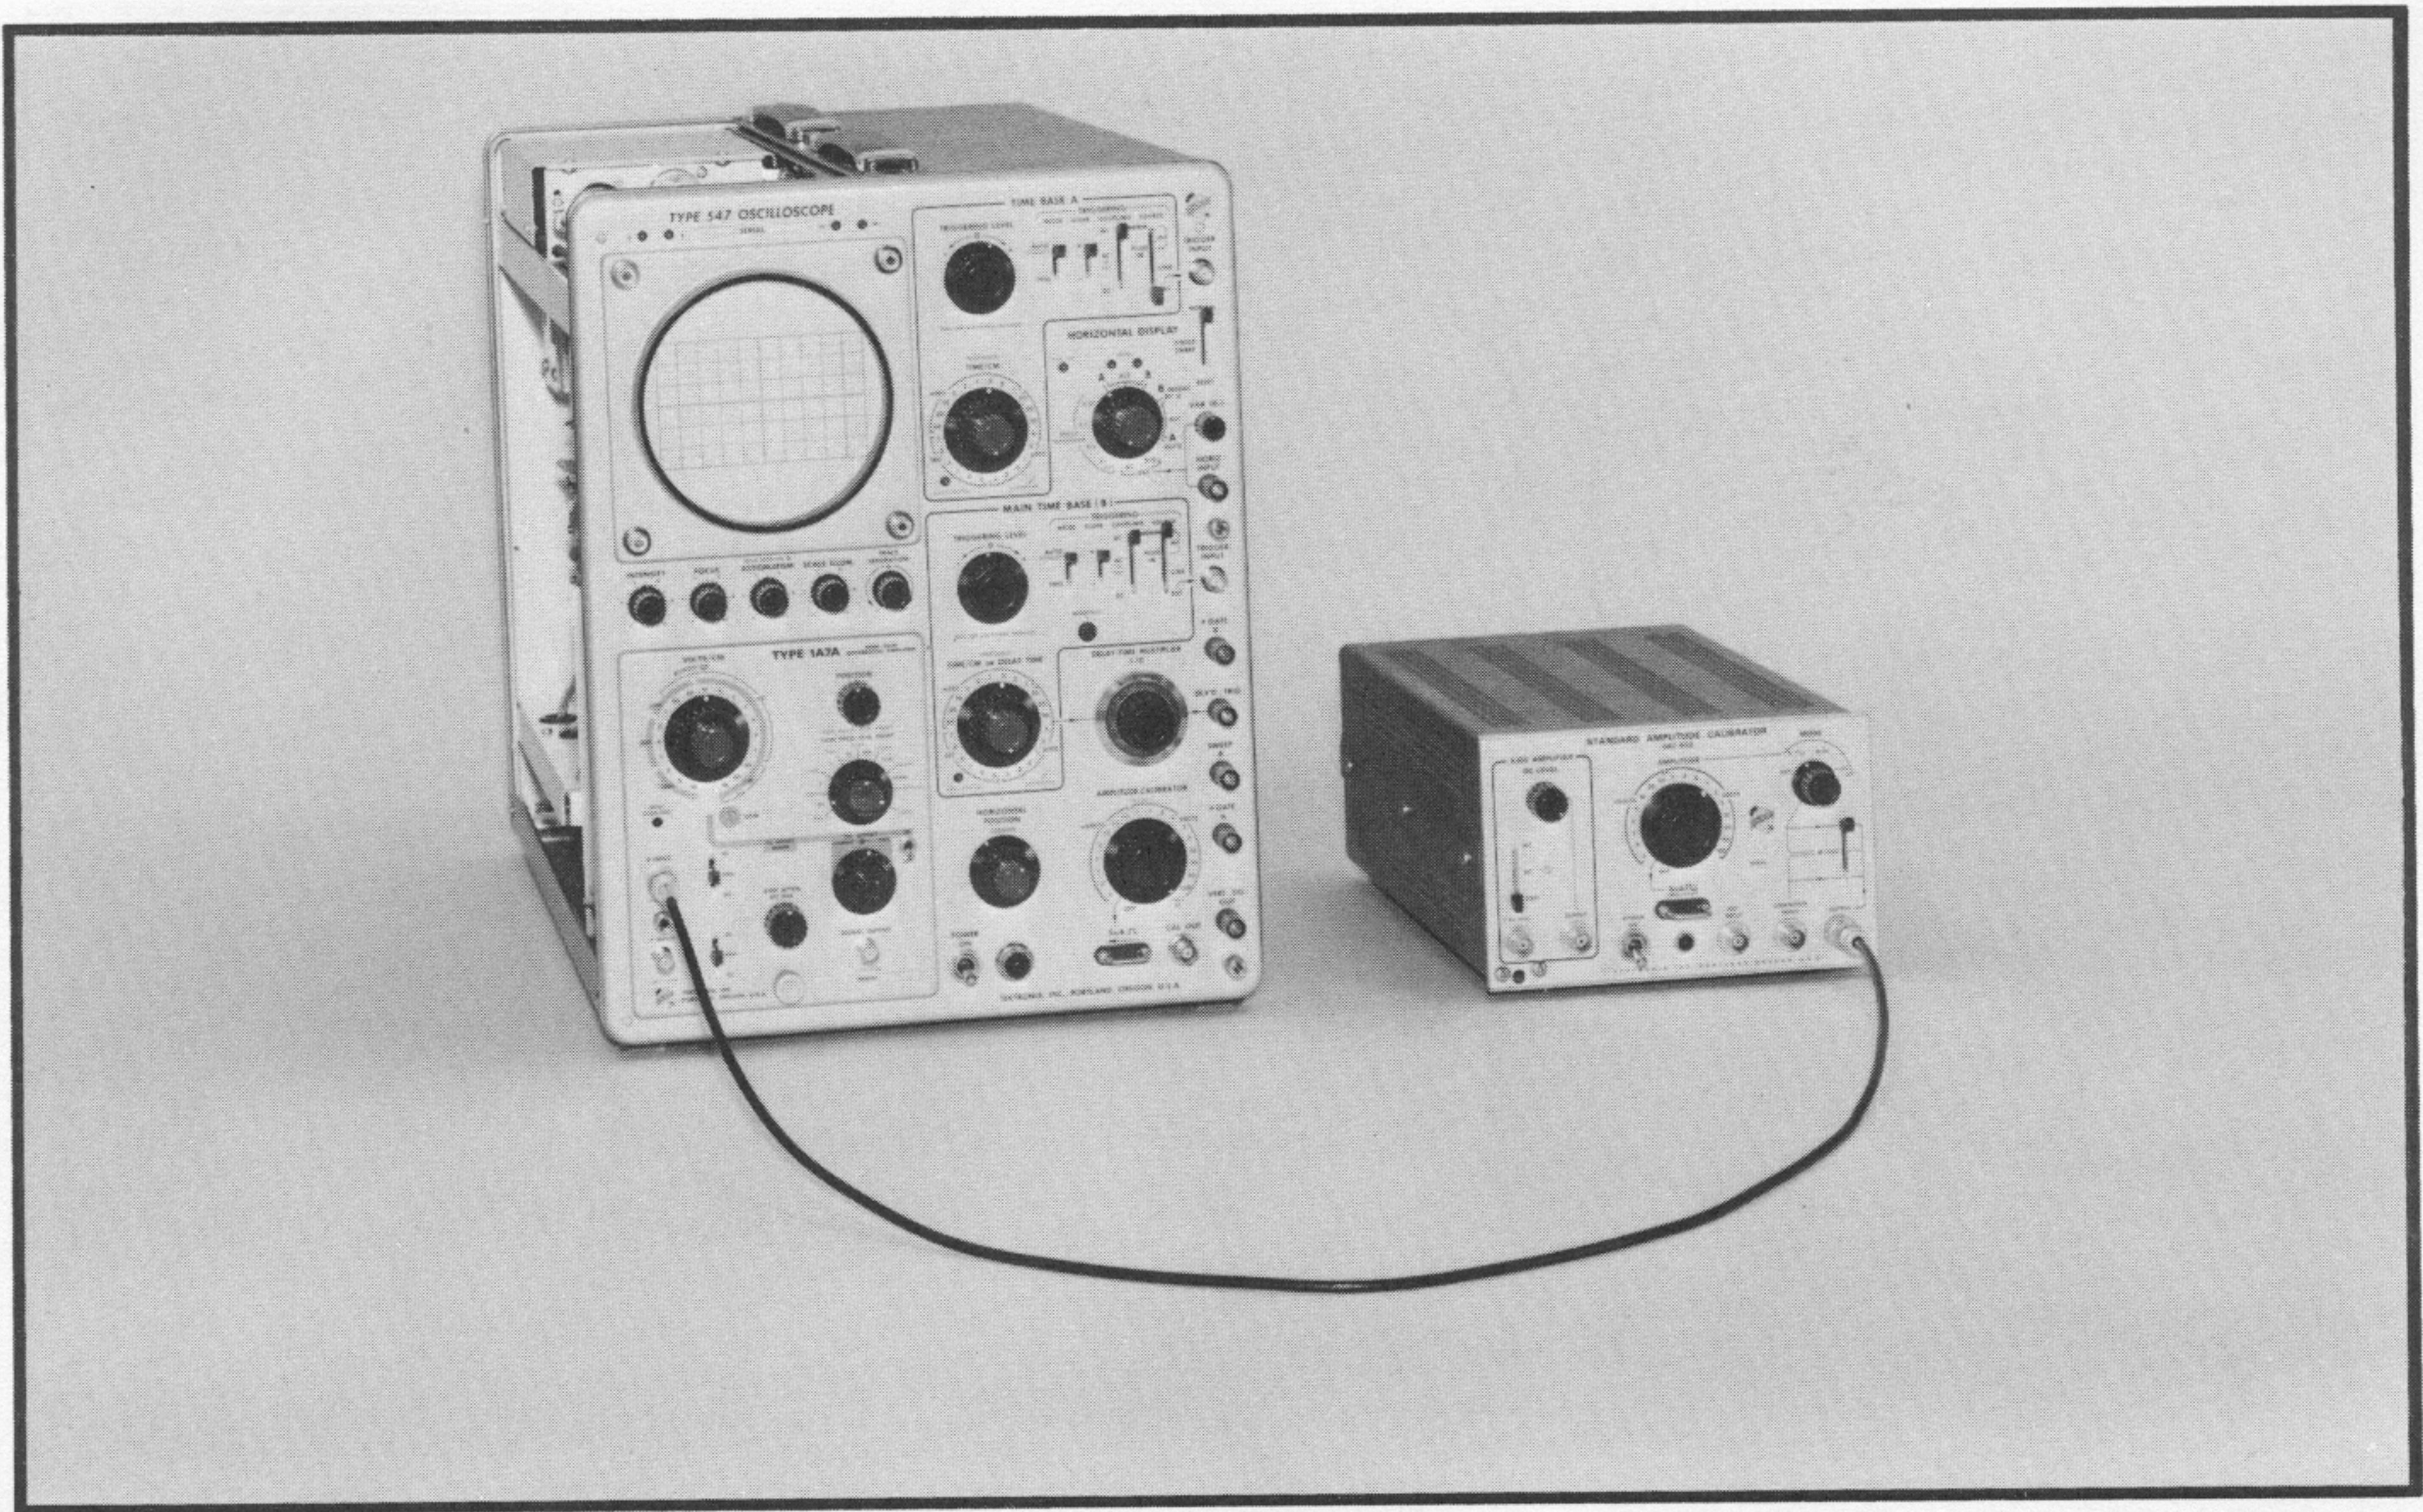

Fig. 5-15. Test equipment setup for step 14.
- Test equipment setup is shown in Fig. 5-15.